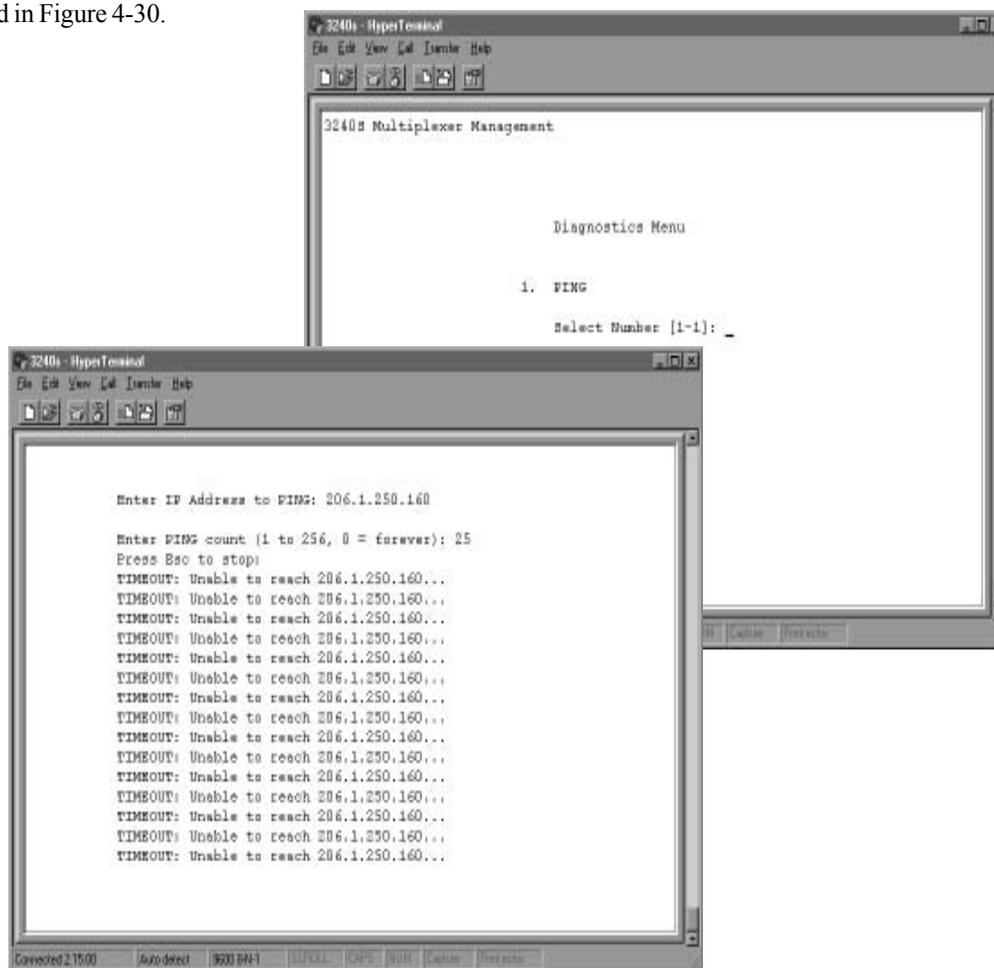

Figure 4-30
PING can be set to send a specific number of PINGs (from 1 to 256) or to PING continuously. From the Diagnostics Menu select '1' or PING, then 'Enter.' Type in the IP Address to PING, then press 'Enter.' A screen will appear which references the PING Address to PING. You will then be prompted to enter the PING count, '1 to 256' or '0 = forever.' Enter the desired PING count then press 'Enter.' Reference Figure 4-30.
- "TIME-OUT: Unable to reach 192.9.200.80 [selected IP address to PING] . . ." indicates an unsuccessful PING as referenced in Figure 4-30.
PING Continuously - From the Diagnostics Menu select '1' or PING, then 'Enter'. Type in the IP address for PING, then press Enter. You will then be prompted to enter the PING count. When zero is entered for the PING count, the 3240S will PING continuously or until the 'Esc' key is pressed (note that in Figure 4-30, "Press Esc to stop" is prompted prior to PING count status). The results of a successful PING will continuously scroll down the screen, and the results of an unsuccessful PING are referenced in Figure 4-30.